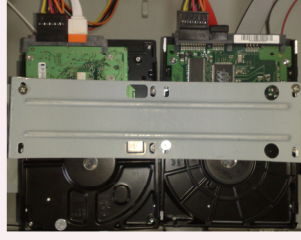

Fig 2.1 Installing hard drive
STEP2 Place HDD into the position shown as fig. 2.1